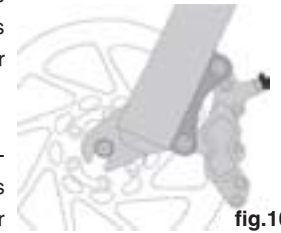
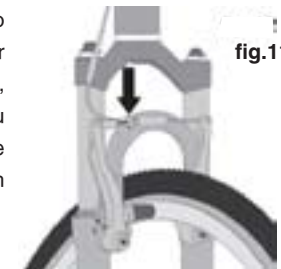

fig.10
fig.11
- (1) If your bike has rim brakes, disengage the brake's quick-release mechanism to increase the clearance between the tire and the brake pads (See Section 4.C fig. 10 through 14).
(see Section 4.C, figs. 10 through 14).
3. Some bicycle brakes, such as disc brakes (fig. 10) and linear-pull brakes (fig. 11), are extremely powerful. Take extra care in becoming familiar with these brakes and exercise particular care when using them.
Most rim brakes have some form of quick-release mechanism to allow the brake pads to clear the tire when a wheel is removed or reinstalled. When the brake quick release is in the open position, the brakes are inoperative. Ask your dealer to make sure that you understand the way the brake quick release works on your bike (see figs. 11, 12, 13 & 14) and check each time to make sure both brakes work correctly before you get on the bike.